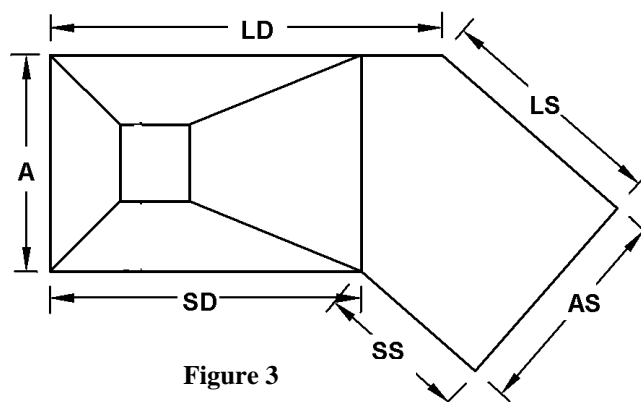

Figure 3
LAZY-L pools require additional dimensions of each straight segment around the perimeter. Refer to the diagram (Figure 3). Measure (SS), (SD), (LS) and (LD) and (AS). Follow the directions for Width and Length in Step#1.